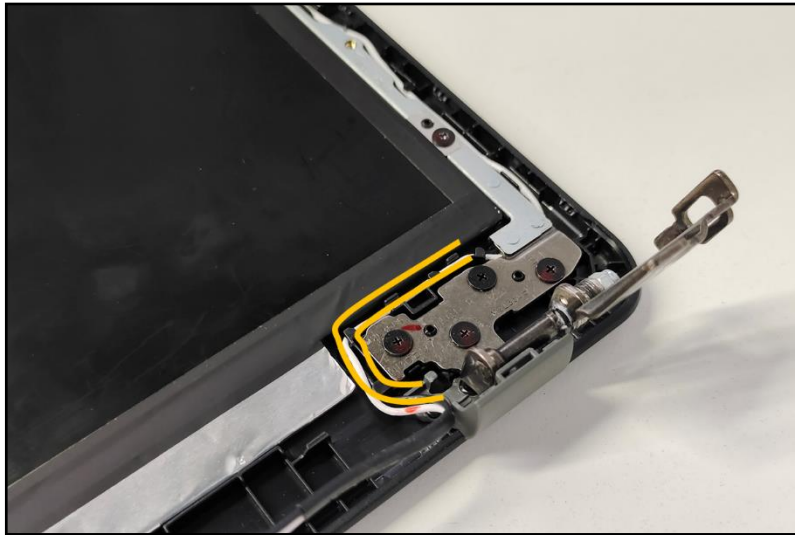

Figure 3-48. LCD Hinges Removal
1. Release the WLAN antennas cables from the right hinge cap as shown in Figure 3-48.